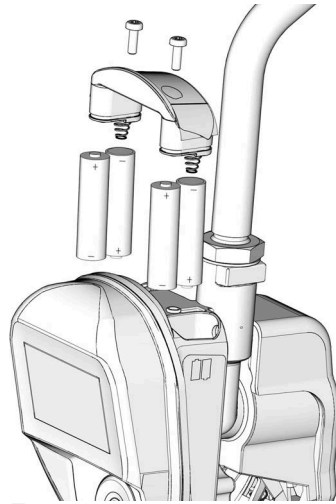

FIG. 78
- Be sure to follow the correct polarity as shown on the installation labels located on either side of the metered dispense valve when installing batteries in the battery compartment (FIG. 78).
4. Install 4 new batteries. See labels on the each side of the housing and FIG. 78 for battery orientation.